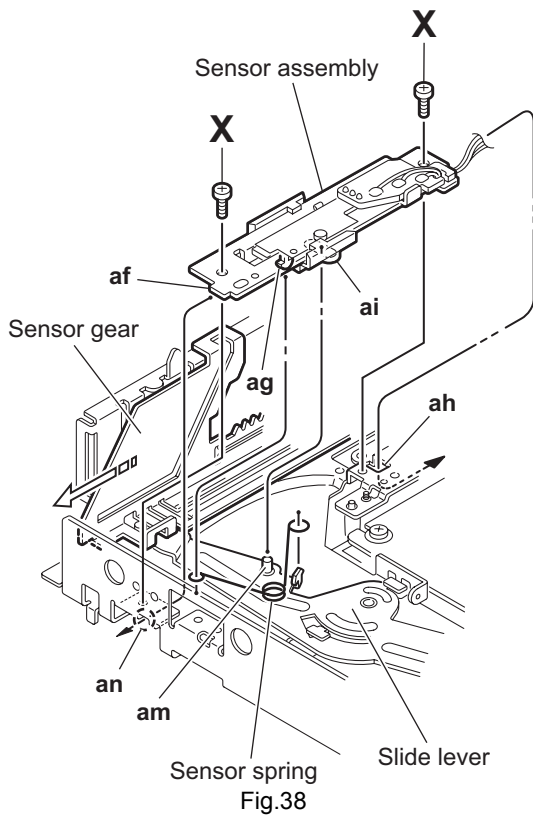

Fig.38
- Joint section **af** of the sensor assembly to the notch **an** of the DVD changer mechanism assembly. (See Fig.38.)